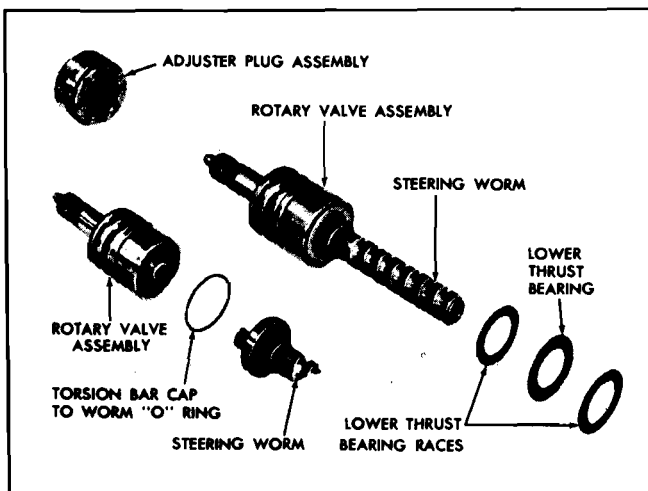

Fig. 9-61 Adjuster Plug and O-Ring Removal
5. Remove adjuster plug from rotary valve and torsion bar by pulling straight out (Fig. 9-61).
7. Remove lower bearing and discard torsion bar cap to worm O-ring (in the Rotary Valve). See Fig. 9-61.